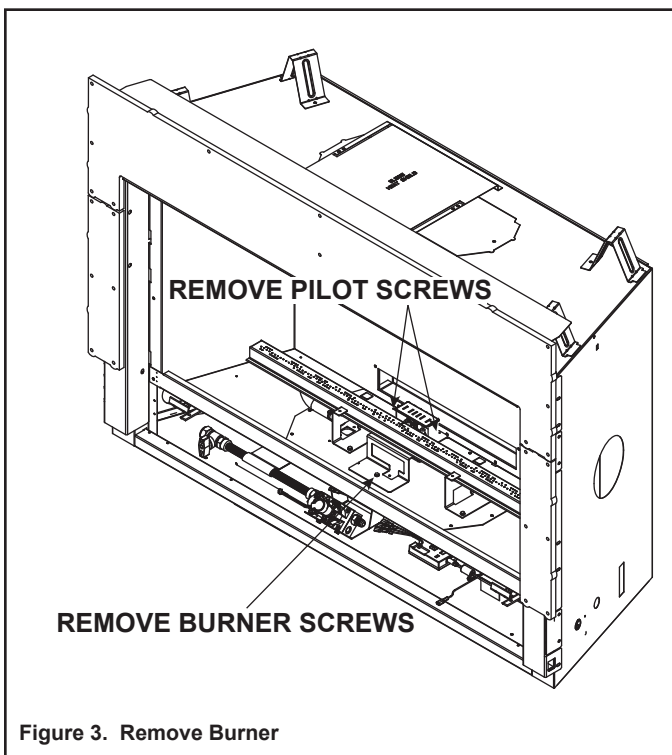

Figure 3. Remove Burner
- Remove the two screws that secure the pilot shield to the burner bracket and remove the two screws that secure the pilot assembly to the burner bracket. Remove the one screw that secures the burner bracket to the valve plate. See Figure 3. Gently push the pilot assembly backwards to allow for the burner to be removed.